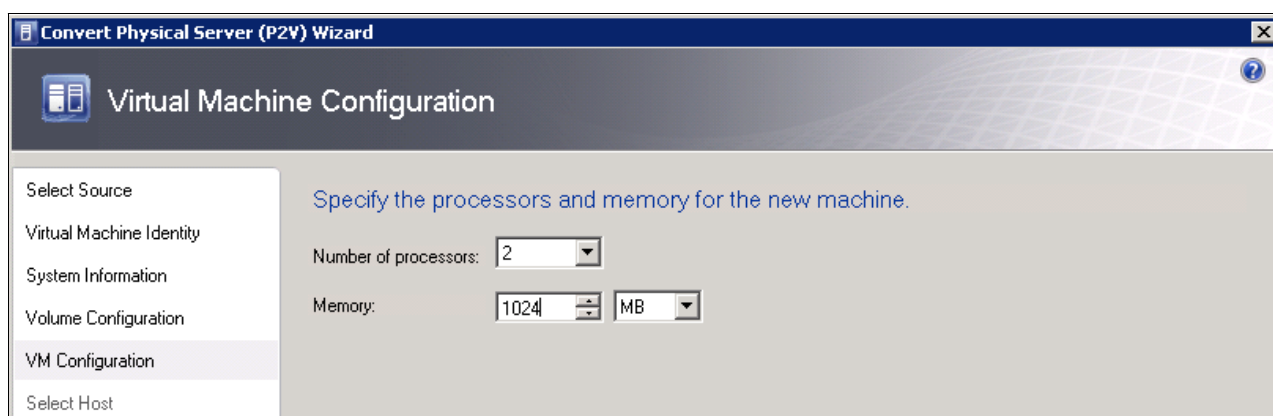
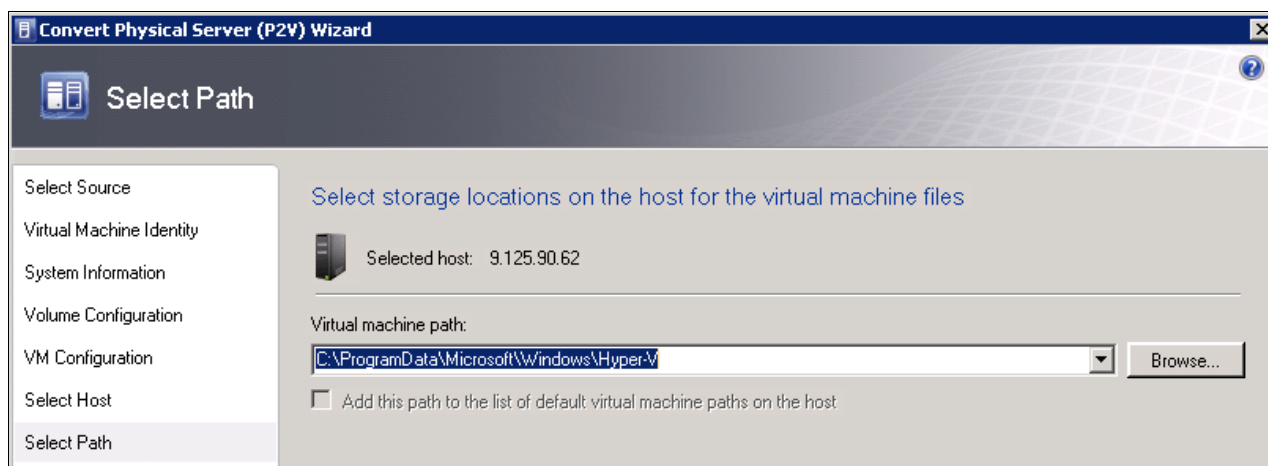
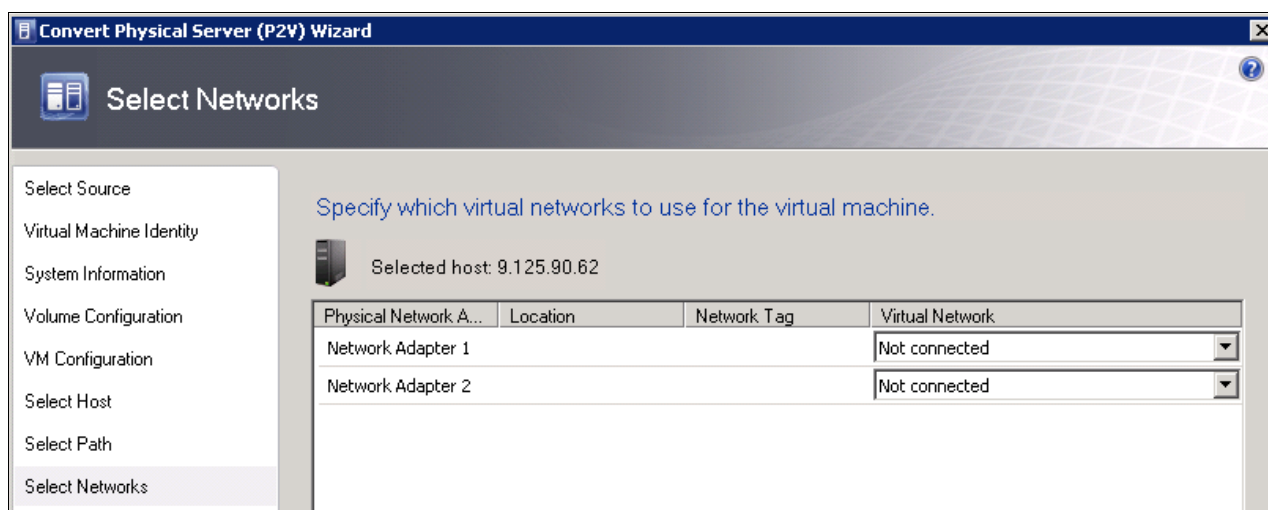
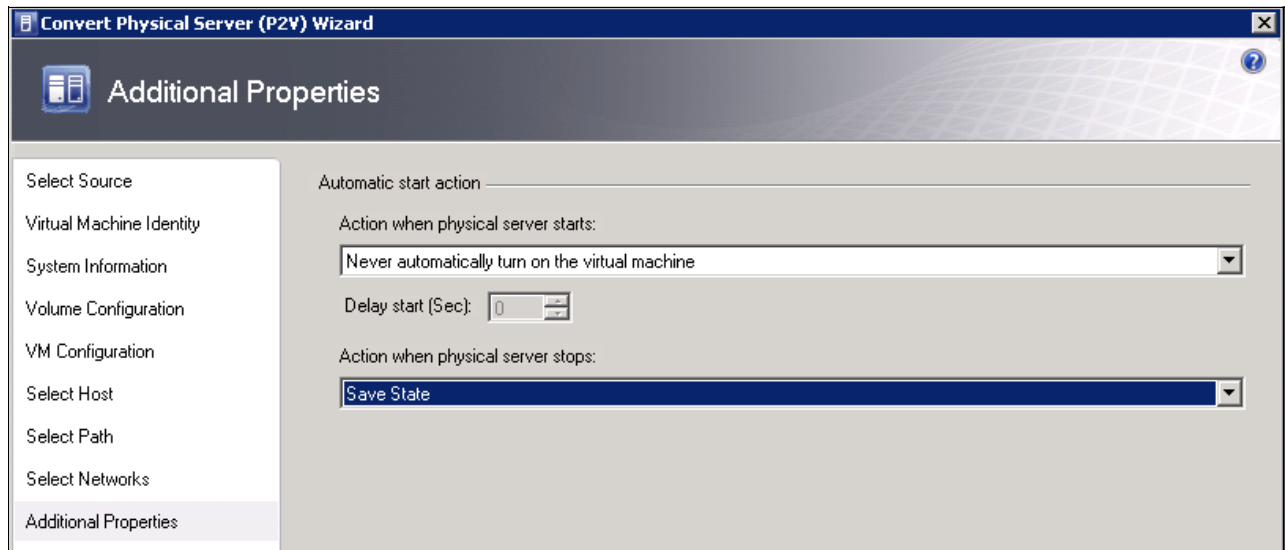

Figure 3-47 SCVMM P2V wizard: VM Configuration
Figure 3-48 SCVMM P2V wizard: Select storage location
Figure 3-49 SCVMM P2V wizard: Select virtual networks
Figure 3-50 SCVMM P2V wizard: Additional Properties
- Define the processors, memory, disk, network, and any additional custom properties for the destination virtual machine, as shown in Figure 3-47, Figure 3-48, Figure 3-49, and Figure 3-50 on page 101.